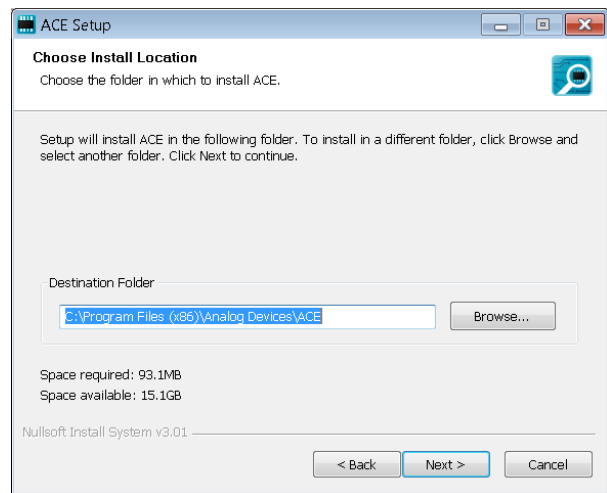

Figure 4. Choose Installation Location
6. Click **Browse...** to choose the installation location and then click **Next >** (see Figure 4).